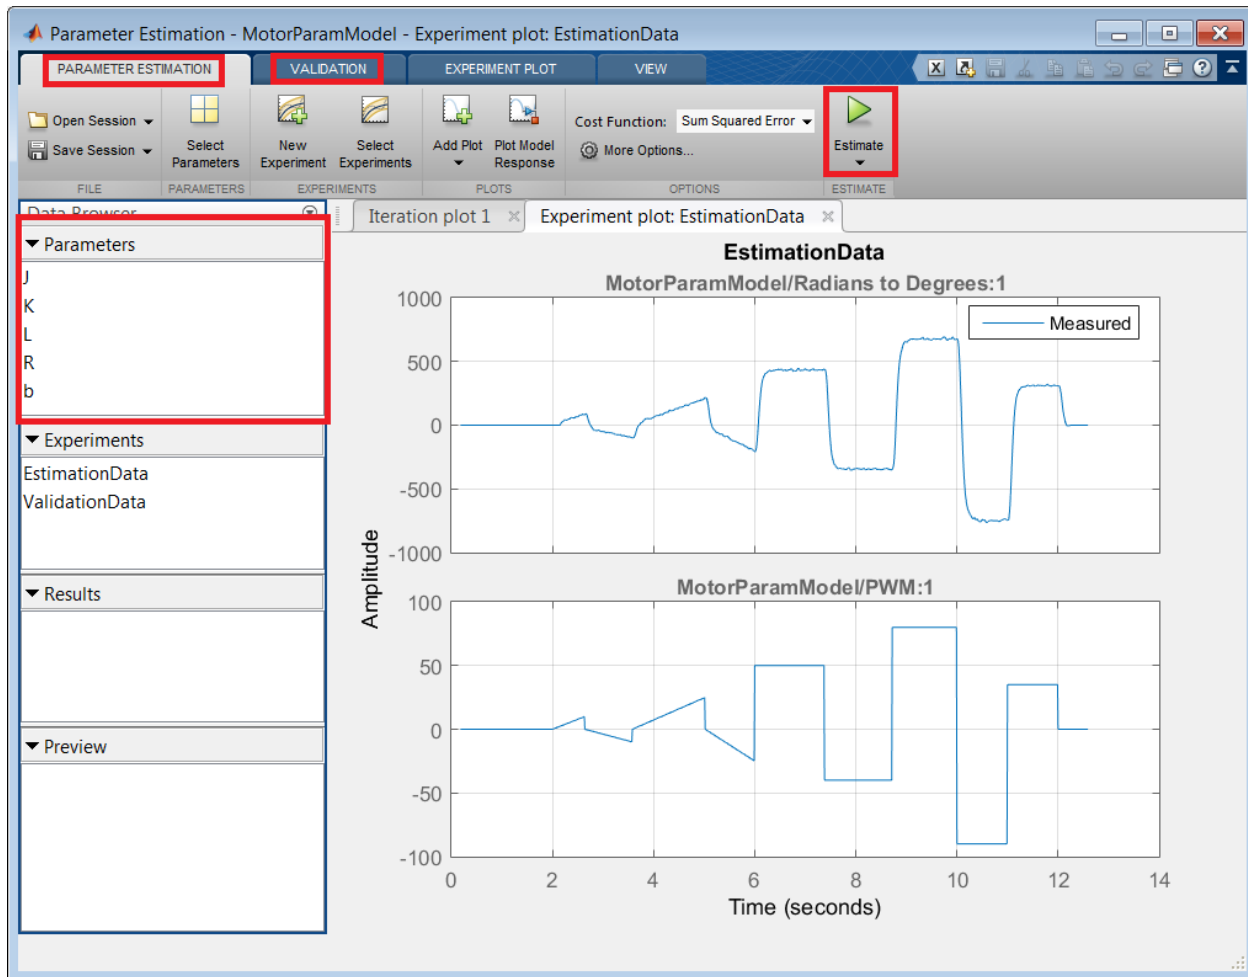

Figure 38 - Parameter Estimation Tool – Estimation
4. Navigate to the **'Parameter Estimation'** tab as shown in Figure 38 and click on **'Start'** to begin the parameter estimation.
- Once the estimation is finished, navigate to the **'Parameters'** pane (Figure 38).